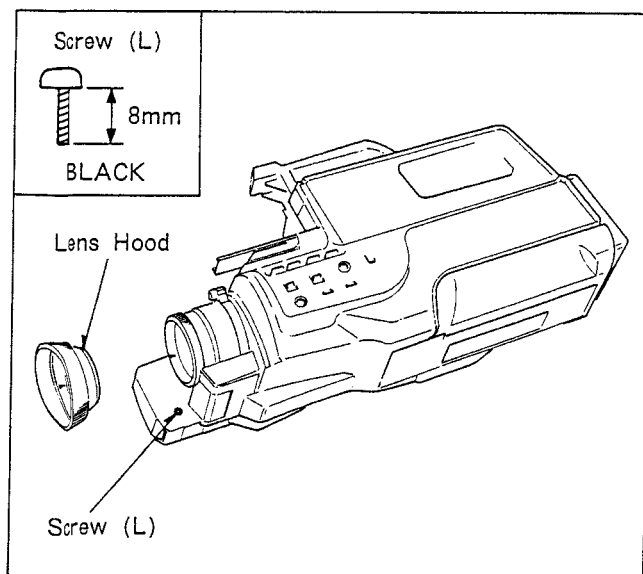

Fig. D6
- (2) Remove the Lens Hood and then remove Screw (L) shown in Fig. D6.
- (3) Lift the Side Case (L) Unit slightly. Then disconnect the Connector.